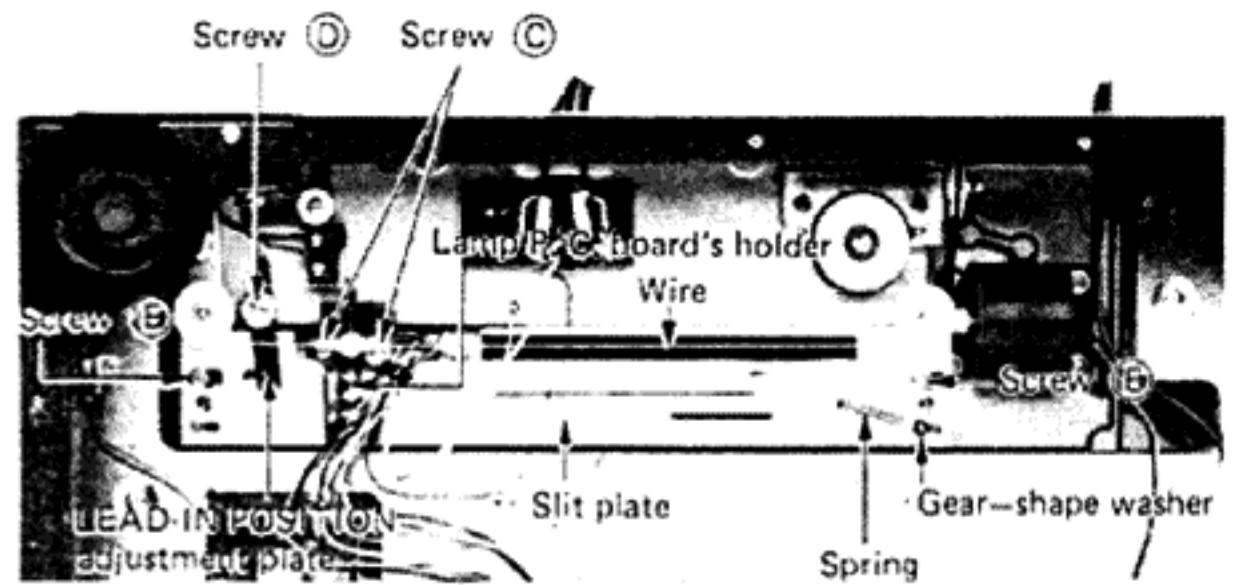

Fig. 2
- 4) Remove the two screws ⑥ shown in Fig. 2 and take off the lamp P. C. board's holder. As a wire used for driving the tonearm base is stretched across the area above the screws, keep this wire out of the way with your fingers.
- 5) Remove screw ⑦ shown in Fig. 2 and detach the LEAD-IN-POSITION adjusting plate.
- 7) Remove the two screws ⑧ shown in Fig. 2 and remove the slit plate.